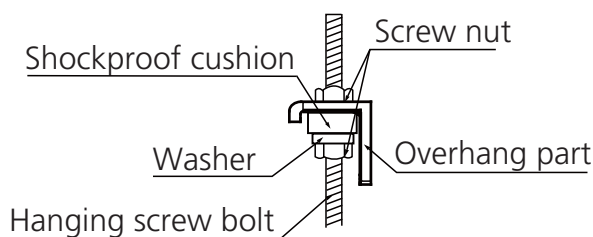

Fig. 4.9
9. Mount the indoor unit onto the hanging screw bolts with a block. Position the indoor unit flat using a level indicator to prevent leaks. (See Fig. 4.9).